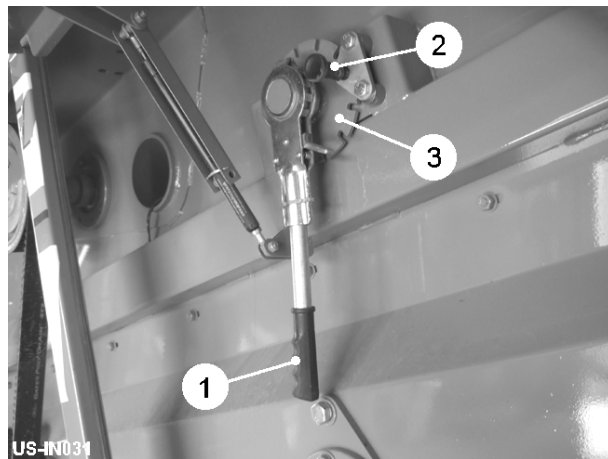

Fig 13
The initial height of the draper web is set using the ratchet arm (item 1, fig13).
2. Support the weight of the web by holding the ratchet arm (item 1, fig 13).
3. Pull out the plunger (item 2, fig 13) and rotate the ratchet arm allowing the plunger to rest on the slotted plate (item 3, fig 13).